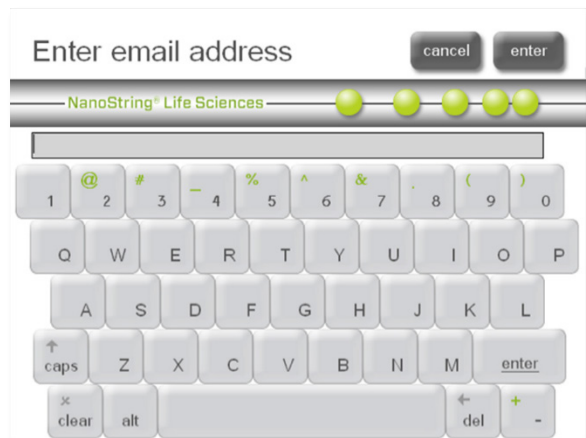

Figure 32: The 'Enter email address' screen.
- Select the email addresses where error and completion confirmation emails should be sent. To add a new address, press **add email**, type in the address, and press **enter** (Figure 32). Finally, select whether the Prep Station should make an audible alarm when processing is finished. When all alerts have been set, press next.